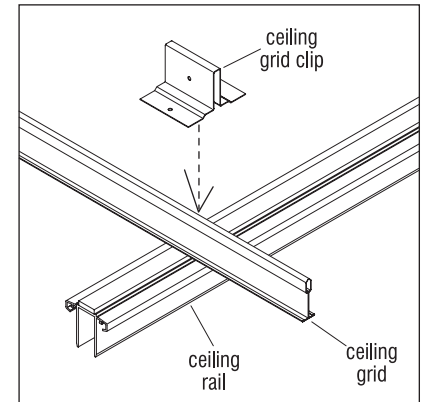

Figure 2
2. Place the clip over the top of the main ceiling grid at the ceiling rail (Figure 2).